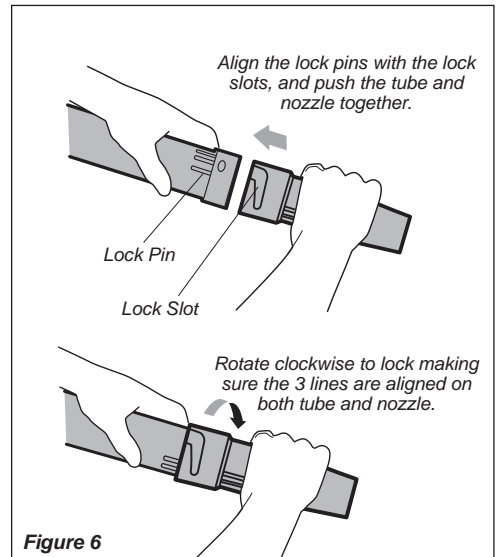

Figure 6
8. Grasp the nozzle, and push the nozzle over the swivel tube locking pins securing the static wire. See Figure 6.
9. Lock the nozzle to the swivel tube by rotating the nozzle noting the alignment marks. See Figure 6.